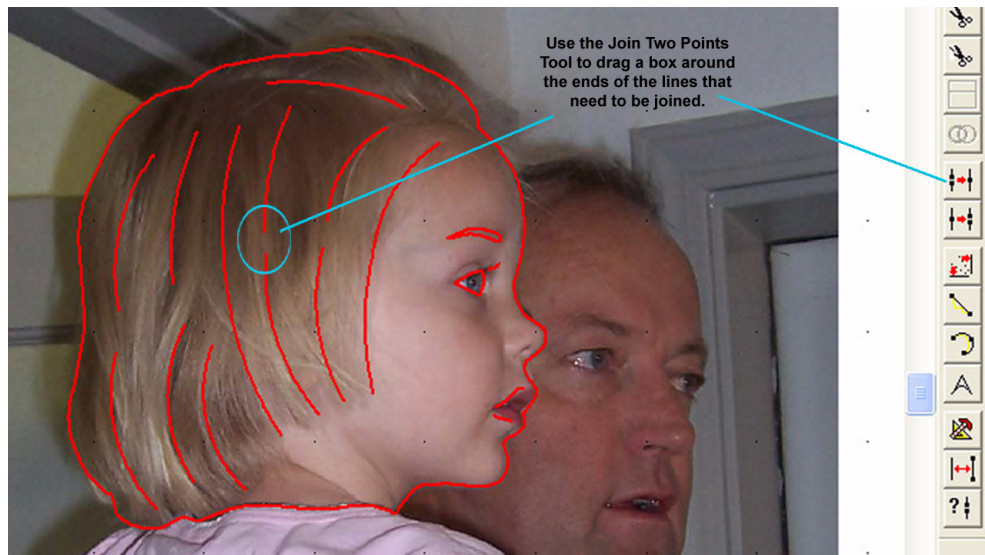

Figure 122
- 4** Use the **Join Two Points** tool to connect the ends of lines. Click and hold down the mouse button while dragging around the end points that need to be joined. When you release the mouse button, the ends should join together. See figure 122.